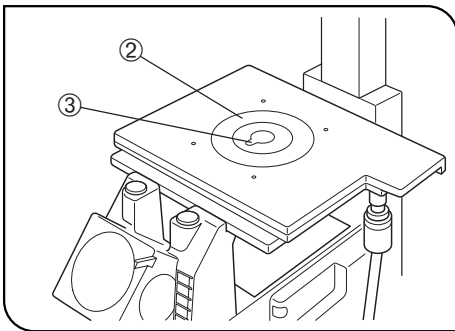

Fig. 67
3. Fit the stage center plate ② into the stage. (Fig. 67)
⊙ To facilitate confirmation of the objective front lens position and application of oil for oil immersion objectives, rotate the stage center plate so that the keyhole ③ will be facing the front. (Fig. 67)